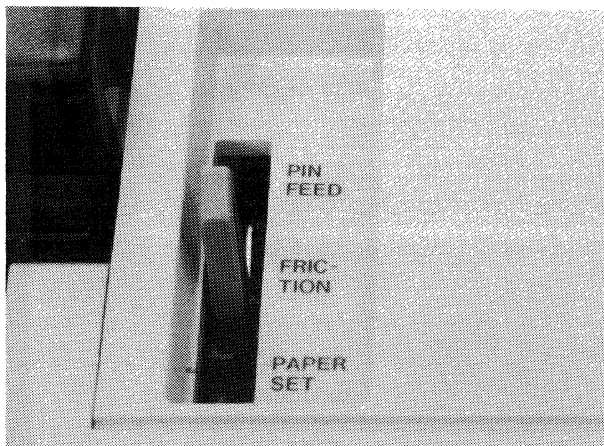

Figure 2-4C Lever to Friction Position
4. Move the control lever to FRICTION (Figure 2-4C). The bail should press the paper against the platen.